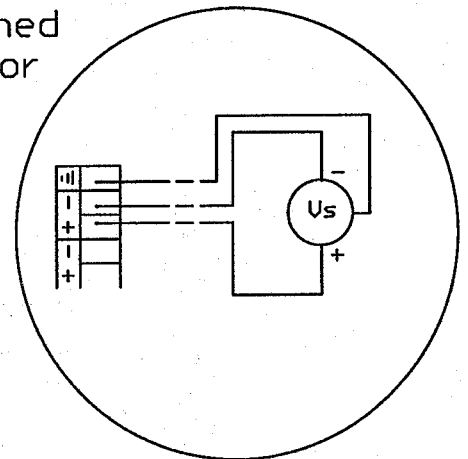

Figure 19 - Sensor connections: differential voltage
- For better common-mode noise rejection, consider differential connection with earthed sensor or bias resistors (see Figure 19 - Sensor connections: differential voltage).